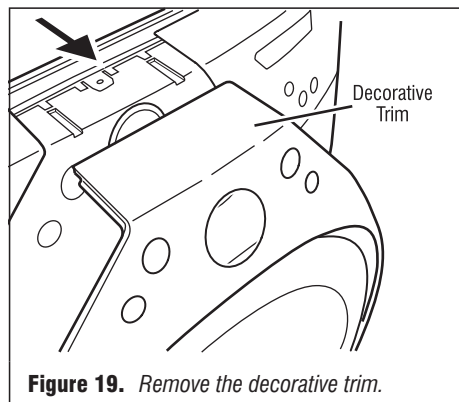

Figure 19. Remove the decorative trim.
3. Gently remove the decorative trim that surrounds the door and upper console by unsnapping it from the dryer. See figure 19.